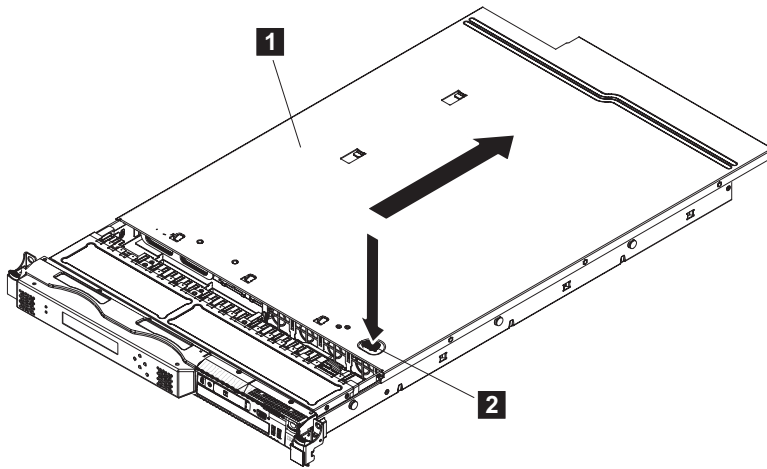

Figure 65. Removing the SAN Volume Controller 2145-CG8 or 2145-CF8 cover
7. Press down firmly on the blue tab (**2** in Figure 65 on page 79) that secures the cover (**1**) and slide the cover toward the rear of the node until the cover disengages the chassis.